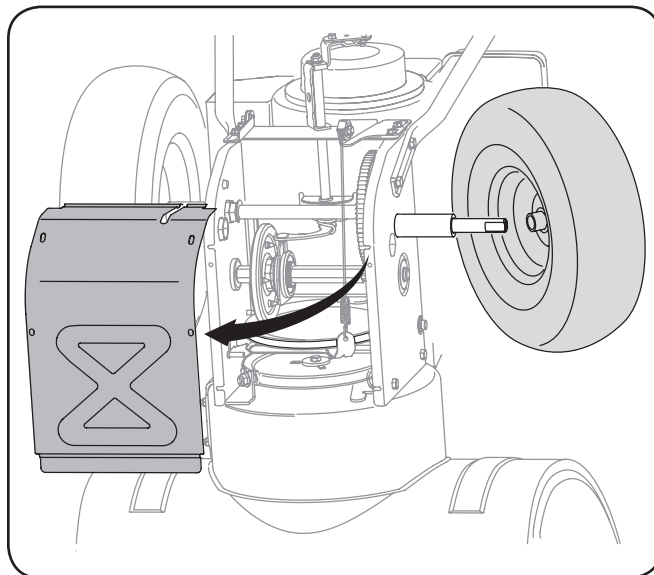

Figure 7-6
4. Remove the frame cover from the underside of the snow thrower by removing the self-tapping screws which secure it. Remove the right-hand wheel by removing the screw and bell washer which secure it to the axle. See Figure 7-6.